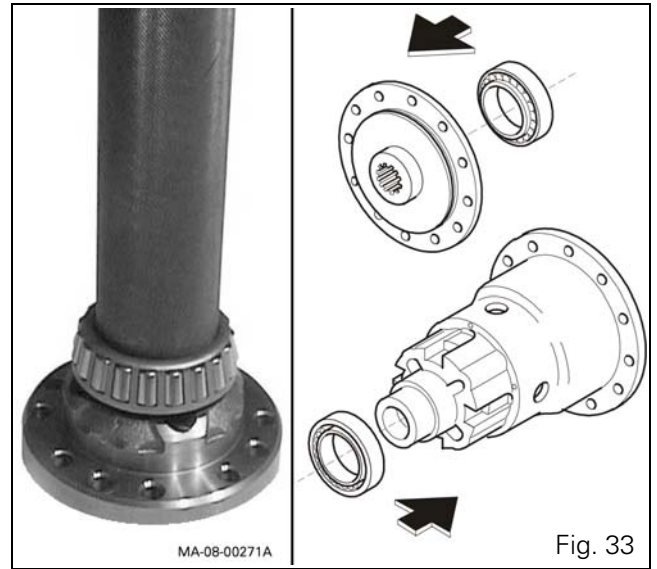

Fig. 33
38. Assemble the new taper roller bearings on the half-bearings using the special tool ref. CA115093 and a mallet (see § J) (Fig. 33).